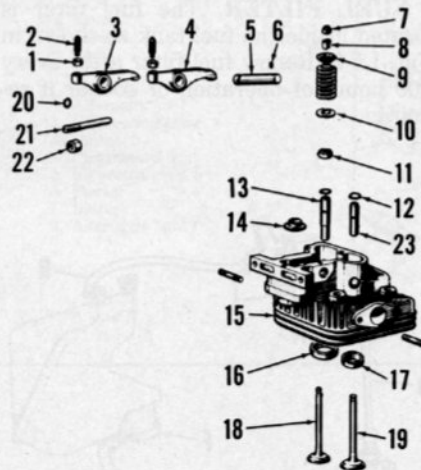

Fig. L5-5—Exploded view of cylinder head assembly.
Do not remove a hot cylinder head as head may deform. To remove rocker arms, unscrew rocker shaft locating pin (21—Fig. L5-5) on Models L8, LDA450 and LDA510 or shaft locating screw (6) on all other models, then use a suitable puller and withdraw rocker shaft.